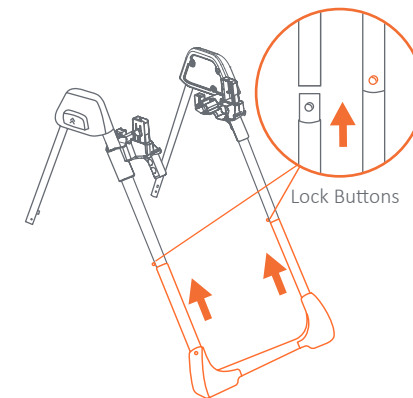

Fig. 3
- 3) • Insert the Legs into the ends of the front tube of both the right and left Upper Frame Assemblies (Fig. 3).